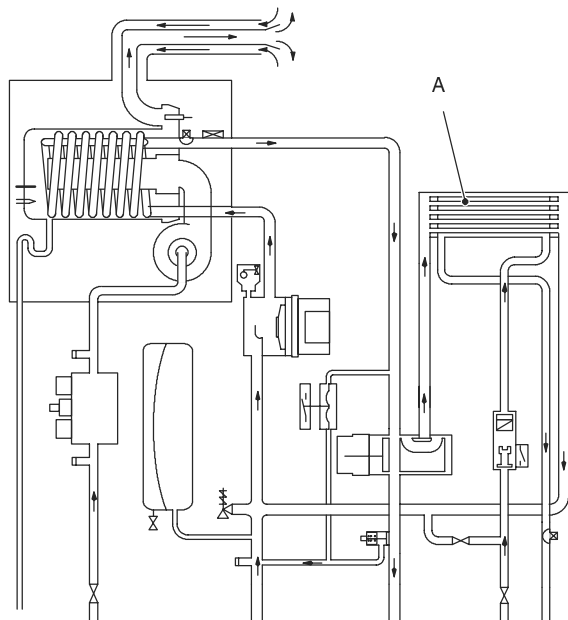
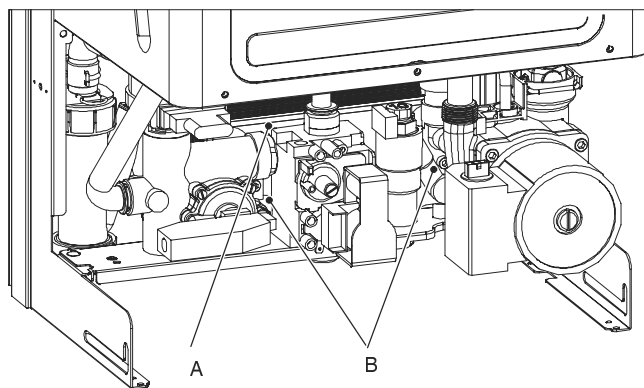

Fig. 6.1
Fig. 6.3
The d.h.w heat exchanger A in Fig. 6.1 and Fig. 6.3 allows the instantaneous transfer of heat from the primary hydraulic circuit to the water destined for d.h.w use.
- 3 Completely unscrew the two Allen key screws B (Fig. 6.3) which hold the exchanger to the brass groups.